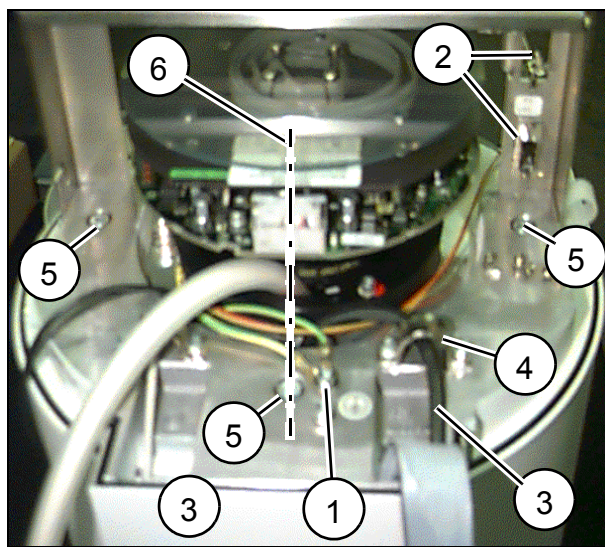

Fig. 6
- Rotate the camera in the "0" position (6/Fig. 6).
- Remove plug D4.X1 of the VIDEOMED DC (2/Fig. 6).
- Remove plug X45 of the cassette contact (2/Fig. 6).
- Remove jacks D4.X1 and X45 from the clips (2/Fig. 6).
- Adjust the camera rotation of the Compact L optics to the "0" position (6/Fig. 6).
- Install the VIDEOMED DC in the "0" position on the Compact L optics and secure it (6/Fig. 6).
- Reinstall the cable clamps (3/Fig. 6).